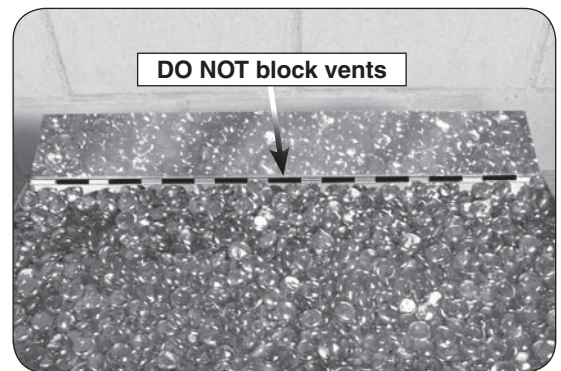

Fig. 17-2 Keep rear vents clear
**Important:** DO NOT block the rear vents of the burner system with glass/gems (see Fig. 17-2).